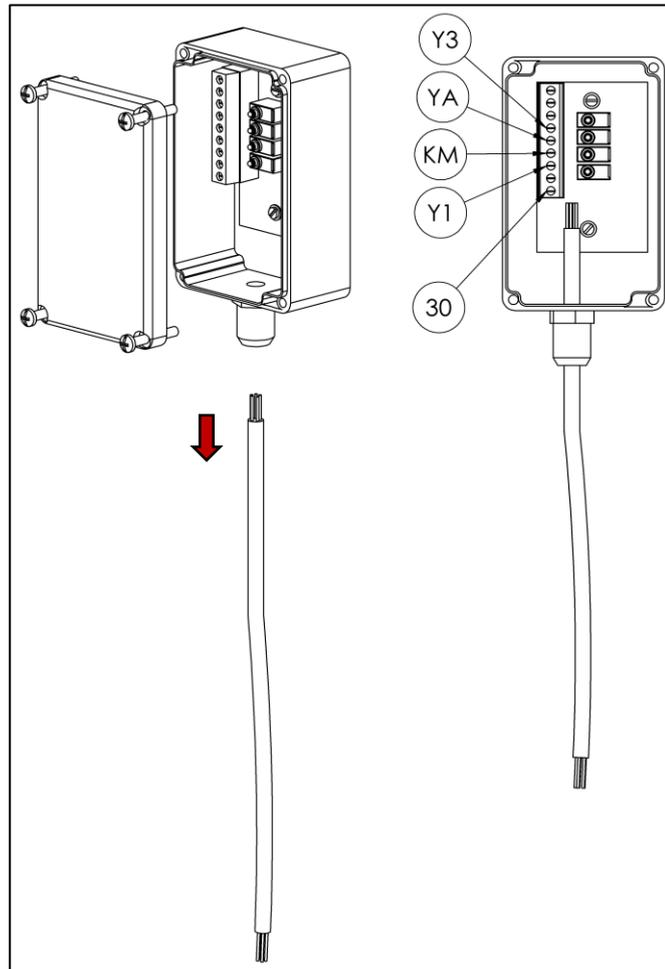

Fig. 36
- Disconnect the service switch box from the cable by loosening the screw terminals in the housing (see Fig. 36).
- Reconnect the service switch to the routed cable as shown in Fig. 36.